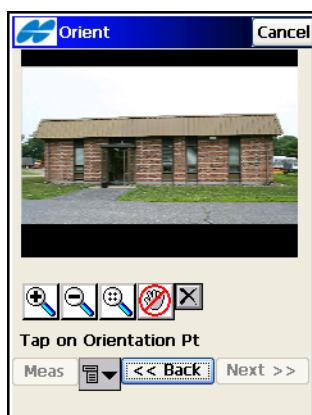

Figure 8-58. Perform Orientation
5. Perform image orientation. On the **Orientation** screen (Figure 8-58), associate a position on the image (x,y) with a known coordinate (N,E,Z).